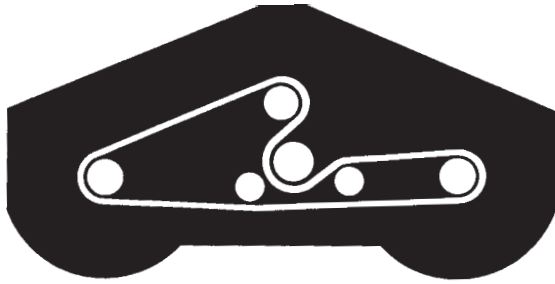

Figure 23
5. Route new belt around spindle pulleys and thru idler pulley assembly, as shown in figure 23.